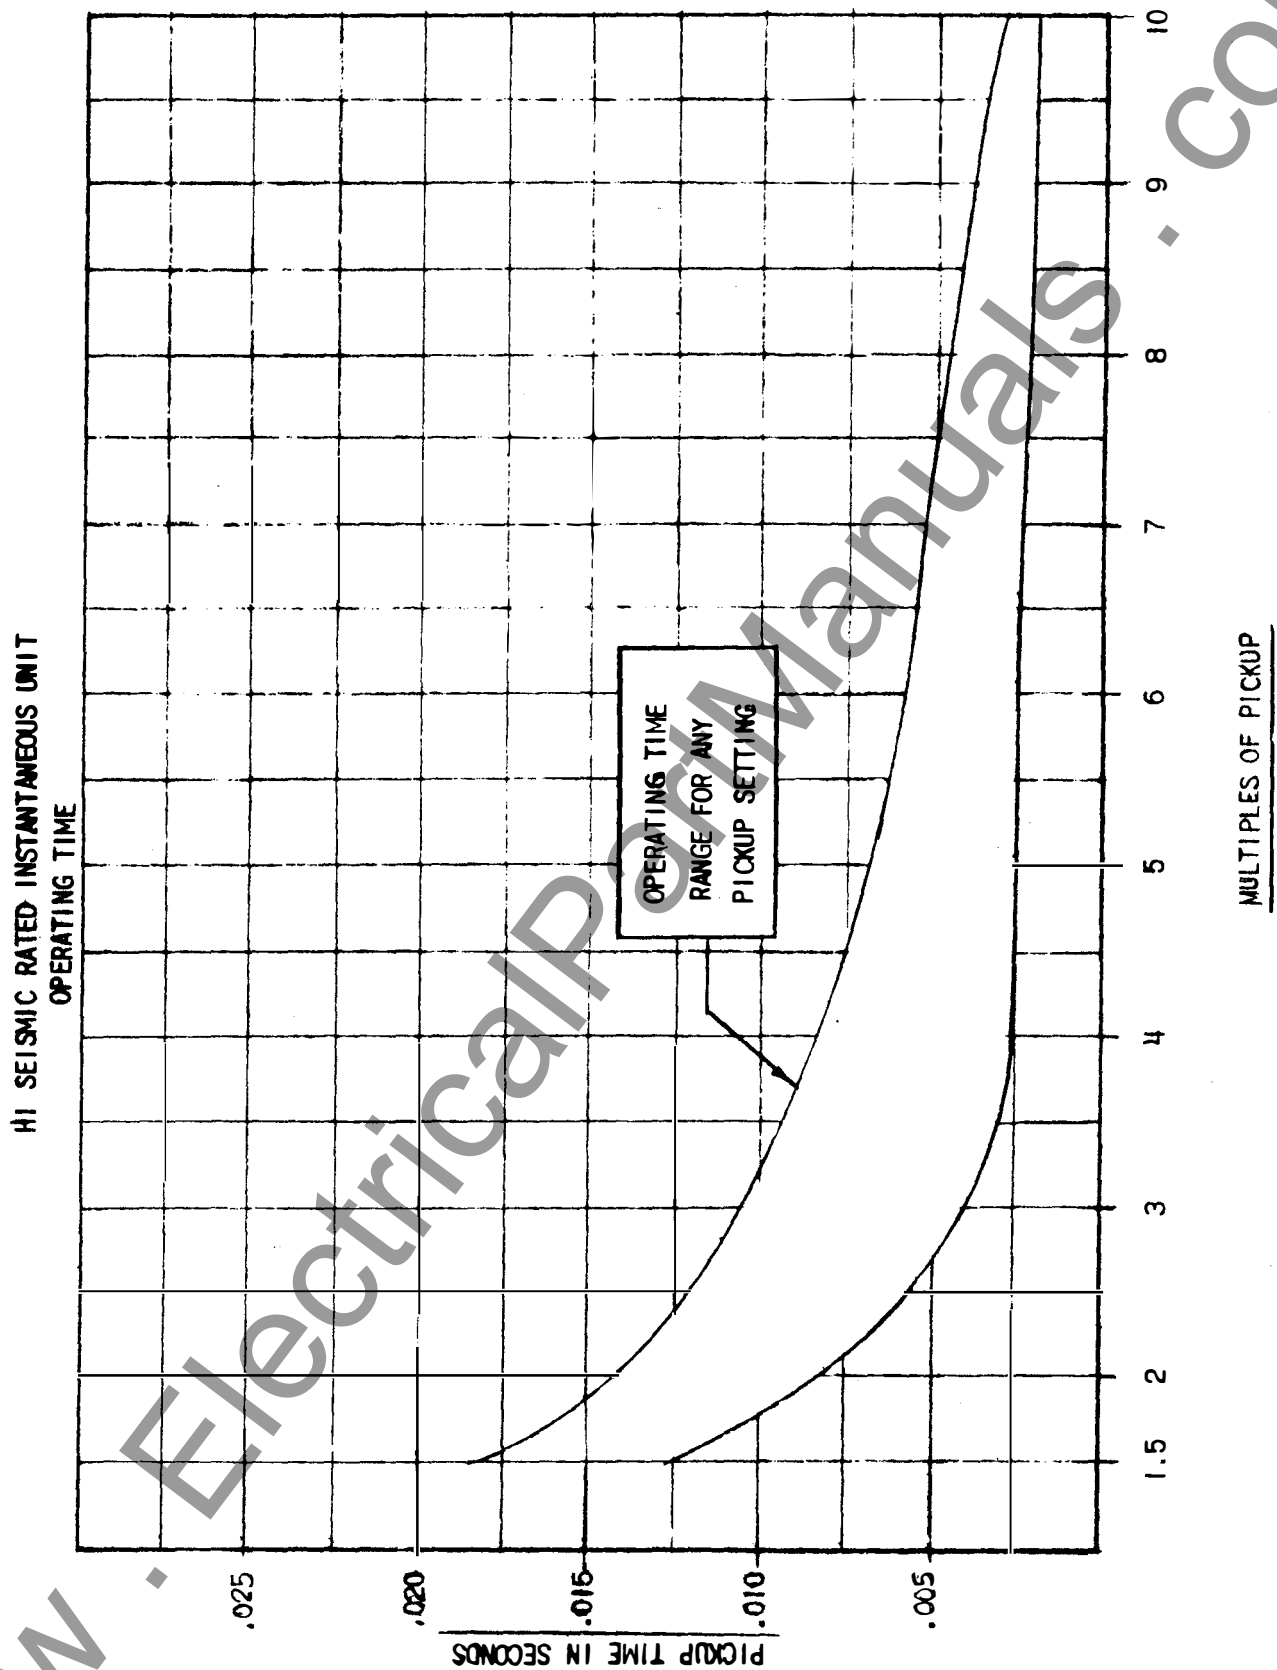

Figure 16 (0208A8695-1) Time-current Characteristics of the High-Seismic Instantaneous Unit
- Figure 16 (0208A8695-1) Time-current Characteristics of the High-Seismic Instantaneous Unit